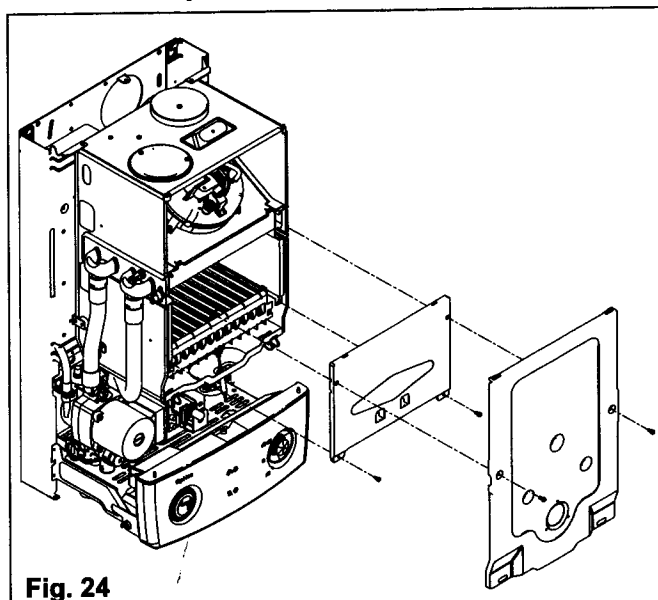

Fig. 24
6.17 BURNER, INJECTORS, AND SPARK/SENSE ELECTRODE fig. 24 & 25
6.18 FLUE FAN fig. 24 & 28
6.19 HEAT EXCHANGER fig. 24 & 26